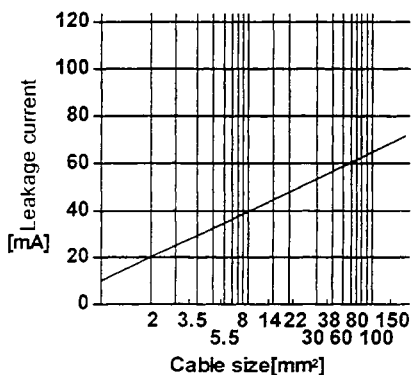

Fig. 14.1 Leakage Current Example (Ig1, Ig2) for CV Cable Run in Metal Conduit
- Ig1: Leakage current on the electric channel from the leakage current breaker to the input of the servo amplifier (Found from Fig. 14.1.)
- Ig2: Leakage current on the electric channel from the output terminals of the servo amplifier servo motor (Found from Fig. 14.1.)